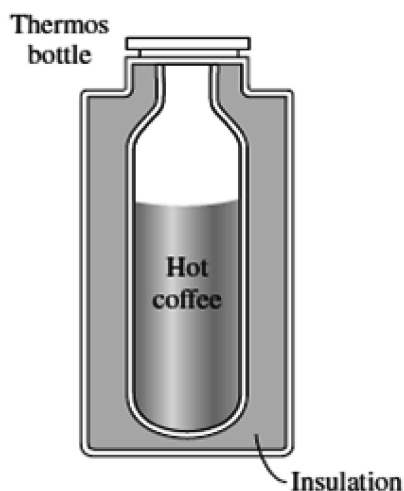

Fig. 1.1 Heat transfer from the thermos
- But a typical user or designer of a thermos is primarily interested in how long it will be before the hot coffee inside cools to 80°C, and a thermodynamic analysis cannot answer this question. Determining the rates of heat transfer to or from a system and thus the times of cooling or heating, as well as the variation of the temperature, is the subject of heat transfer (Figure 1.1).